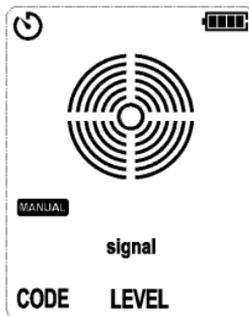

Figure 6.2.1b – Manual Mode
1. Power on the receiver and then enter MANUAL mode (default reception sensitivity: 6), as shown in **Figure 6.2.1b**.